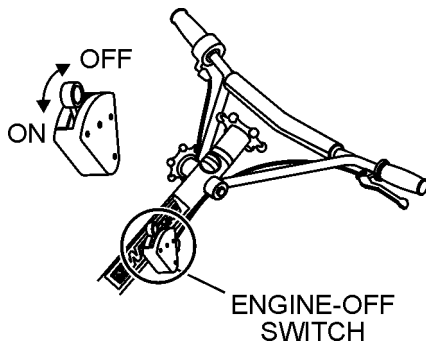

Figure 24. Centrifugal Engine-Off Switch
- Place the **centrifugal Engine-Off switch** (Figure 24) in the "ON" position. For models that use this feature.